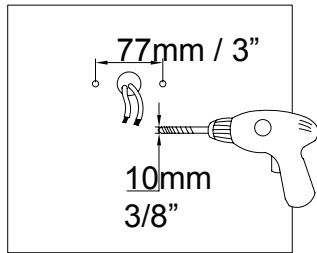

FIG.11
- 3 Mark and drill holes on the wall according to the layout in (Figure 11).